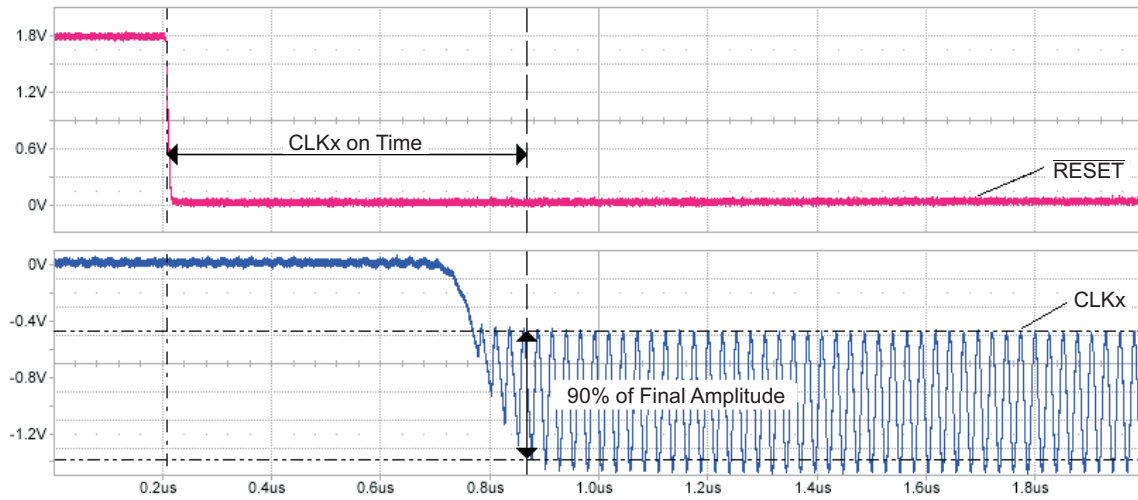
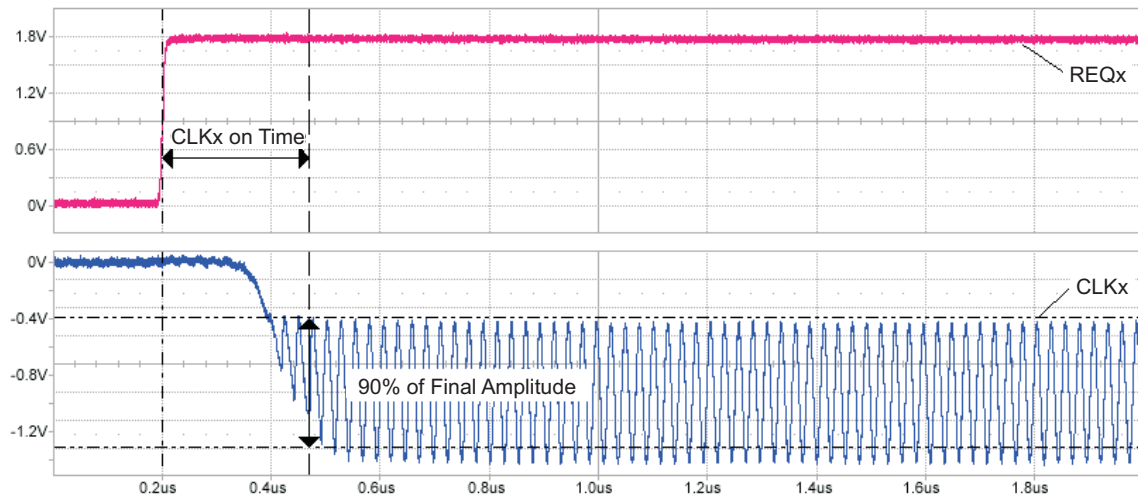

Figure 5. CLKx On-Time From  $\overline{\text{RESET}}$  Off-to-On
Figure 6. CLKx On-Time From REQ Off-to-On
| $t_{CLK}$ (2) | CLKx on-time – REQ-to-CLKx                                                                    | $f_{MCLK\_IN} = 38.4\text{ MHz}$ ; $V_{DD\_ANA}$ is on;$V_{IS} = 1\text{ V}$ ; $V_{OS} = -1\text{ dB}$ (see <a href="#">Figure 5</a> and <a href="#">Figure 6</a> )          |     | 0.3                | 0.4 | $\mu\text{s}$ |